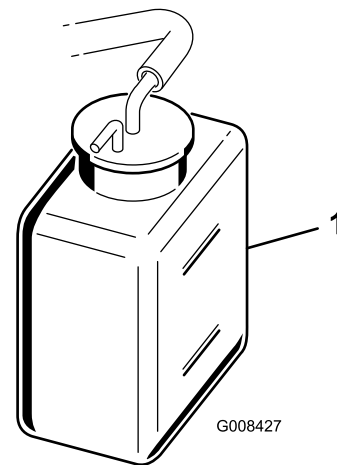

Figure 26
2. Check the coolant level (Figure 26).